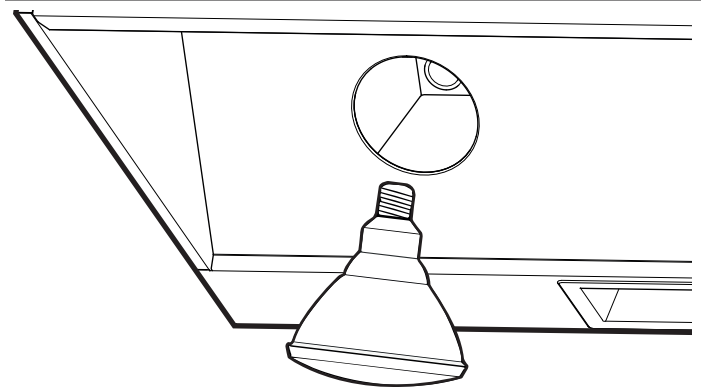

Figure 33: Heat Lamp Replacement
- Turn heat lamp clockwise to install (Figure 33).